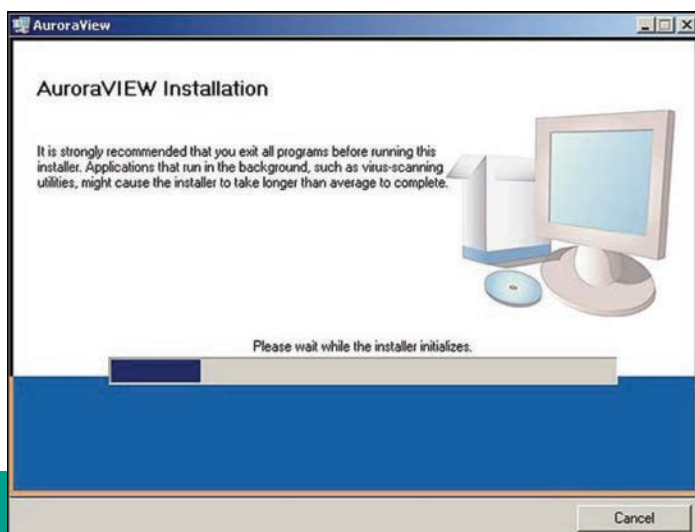

Figure 48: Installation recommendation
4. Exit all other programs before running the installer (see *Figure 48* below).